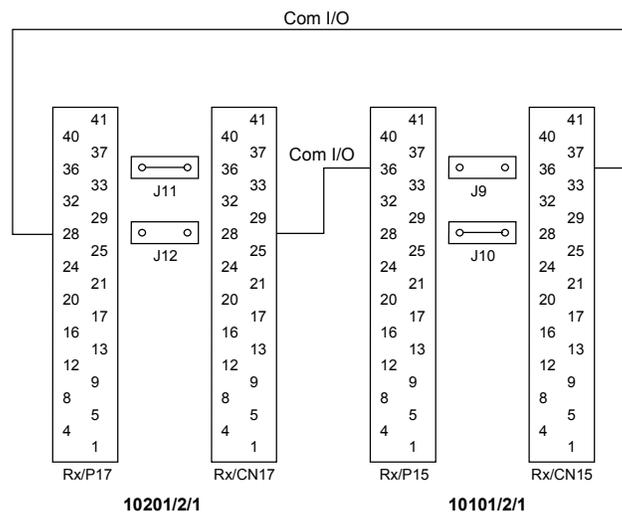

Figure 3 Example of 'Com I/O' configuration
Example 1 (see Figure 3): Configuration of 'Com I/O'.
- then: jumper J9 must be removed for the input 'Com I/O', jumper J12 must be removed for the output 'Com I/O', and two wires must be connected as shown in Figure 3.